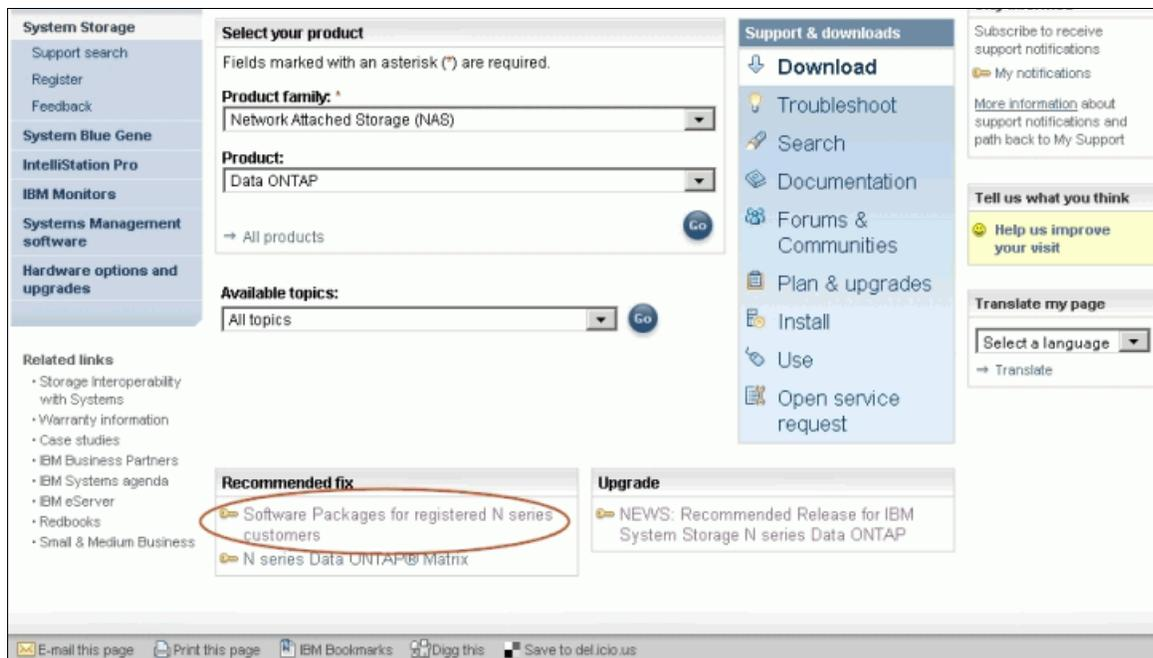

Figure A-2 Software packages
2. Click **Software Packages** for registered N series customers. See Figure A-2.